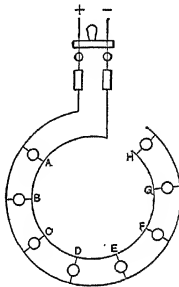

FIG. 75.
**Prob. 23-3.** If the wiring of Prob. 22-3 were arranged as in Fig. 75, and all the data were the same as in Prob. 22-3.